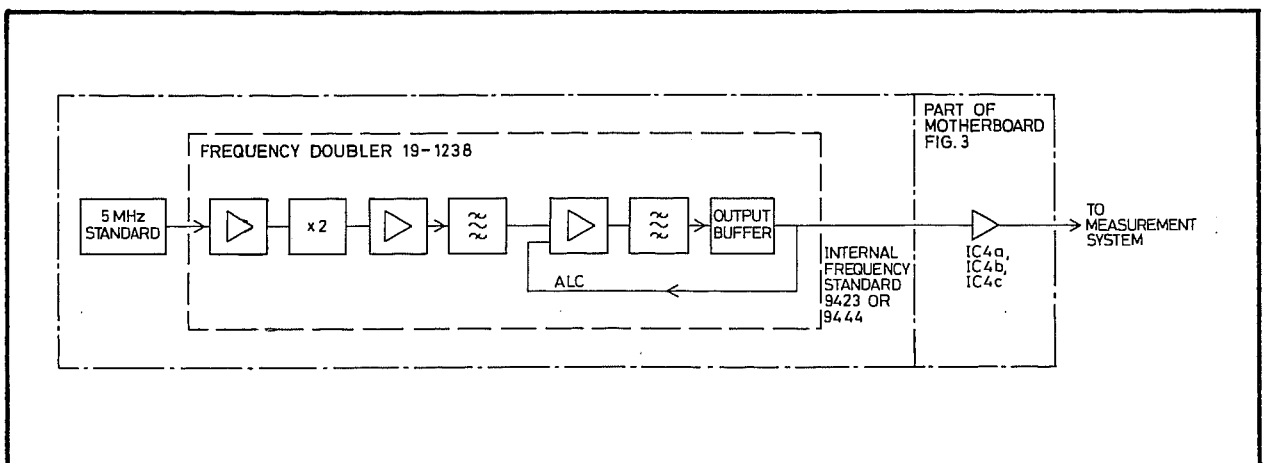

Fig. 6.16 9423 and 9444 Oscillators
- 166 The internal frequency standards 19-1147 and 19-1208 are 10 MHz oscillators. Frequency standards 9423 and 9444 each comprise a 5 MHz oscillator and a frequency doubler. A block diagram of the 9423 and 9444 oscillators is shown in Fig. 6.16.